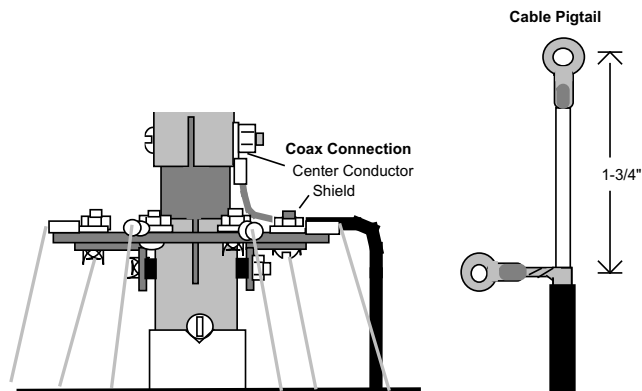

**Figure-14:** Raising Antenna
- [ ] Slip a large worm clamp on top of base section, positioning below split in tube (see **Figure-14**).